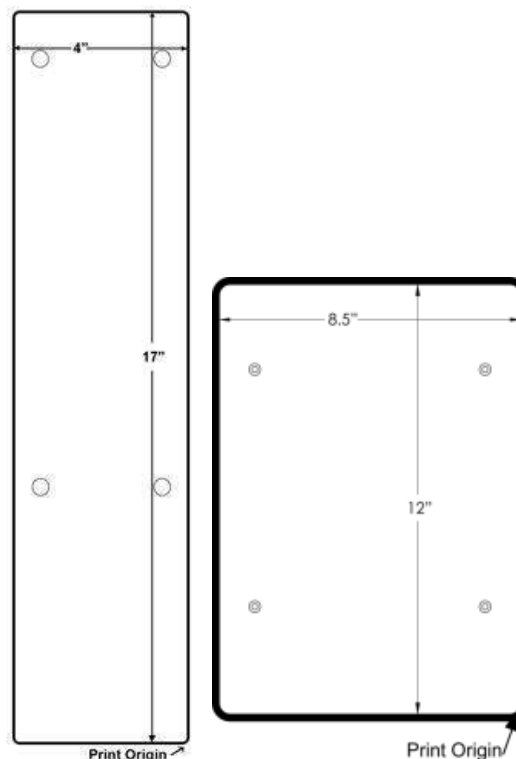

Figure 5.3h: Sleeve and Youth Size Print Table and Print Origin
- Most printing will be done using the Main platen which measures 14" x 18". For printing youth size shirts and sleeves, you can install the Youth Print Table which is 8.5" x 12" in size, AnaJet P/N 150197, or the Sleeve Print Table which is 4" x 16.8" in size, AnaJet P/N 150196. (see Figure 5.3h). When using these tables, choose the corresponding platen size. Doing so will change the application's preview window to correspond to the narrower print area as well as automatically adjust the print origin.